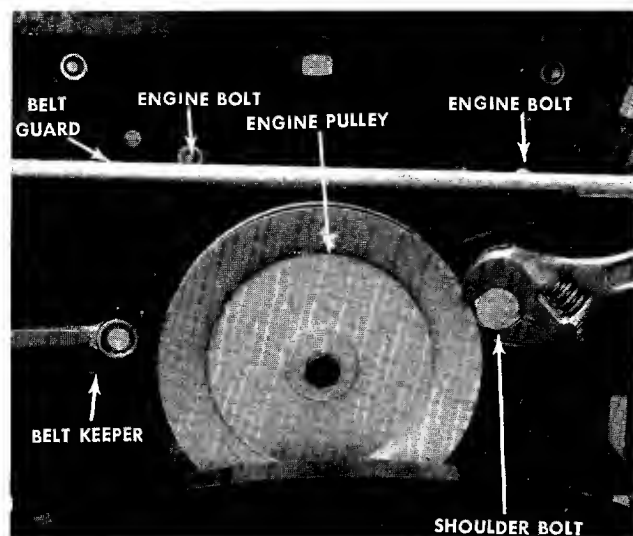

FIGURE 24. ENGINE PULLEY
- Step 2. Remove the belt keeper and shoulder bolt next to the engine pulley. See figure 24.
Step 9. Removing the transmission belt. See figures 24 and 25.
- a. Remove the entire belt guard from the engine pulley by removing the two front engine bolts. See figures 24 and 25.